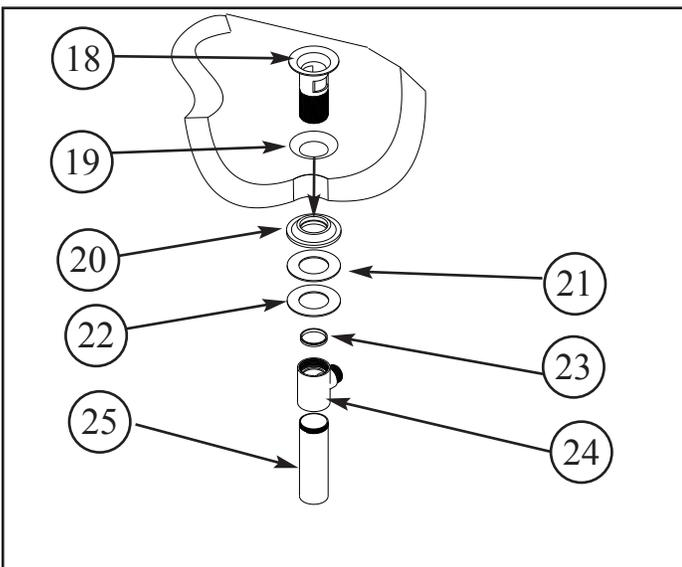

Figure 5
5. Remove drain PLUG (17) from FLANGE (18). Place FLANGE (18) and white WASHER (19) through sink drain opening. (Clear silicone may be used in place of white washer.) From bottom side of sink, place cone shaped rubber WASHER (20) onto FLANGE (18) and slide up against sink bottom. Note: Cone portion of WASHER (20) to face upward. Next slide on clear flat WASHER (21) and secure with flange NUT (22). Place clear WASHER (23) into drain BODY (24) & tighten to FLANGE (18). Apply thread sealant to TAILPIECE (25) and attach to drain BODY (24). Attach TAILPIECE (25) to p-trap drain (not included). See Figure 5.